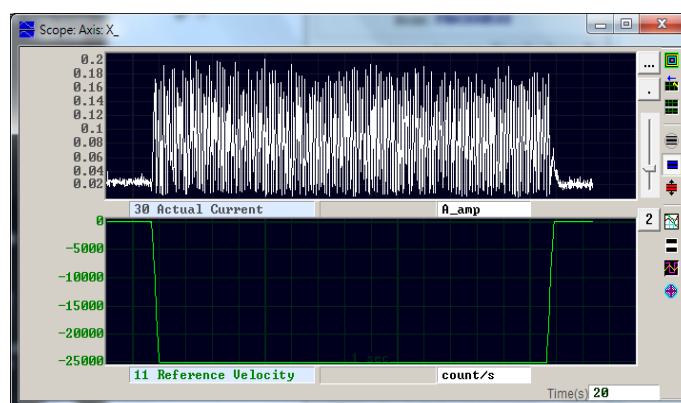

Figure5.6.1.2
Step 3: Observe the value of Actual Current and record the maximum value, as figure 5.6.1.2. The maximum value is about 0.2 A, so **Search end stop current** can be slightly larger than 0.2 A. In this case, **Search end stop current** can be set to 0.23 A.